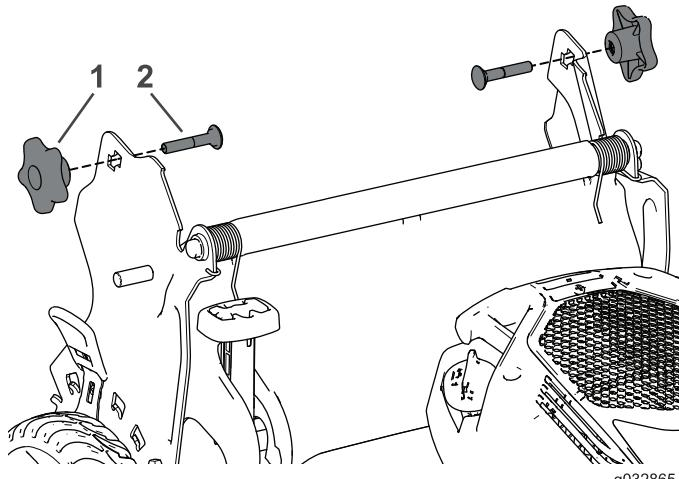

Figure 3
- Remove and save the 2 handle knobs and 2 carriage bolts from the handle brackets (Figure 3).